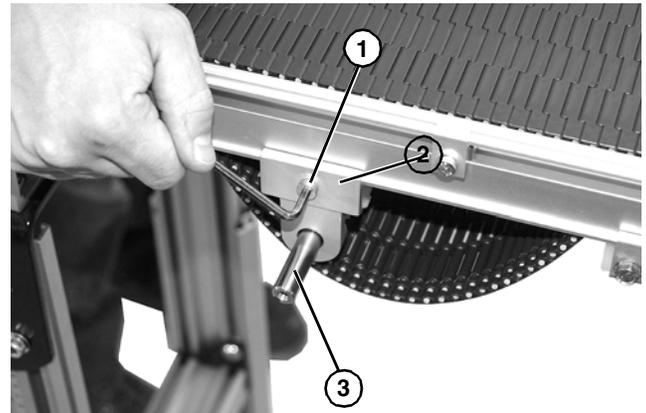

Figure 39
2. Loosen and remove screw (**Figure 39, item 1**) and bearing housing (**Figure 39, item 2**) and remove drive pulley (**Figure 39, item 2**).